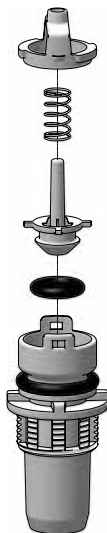

Fig. 28
- Refit following the order and position in the diagram (Fig. 28).